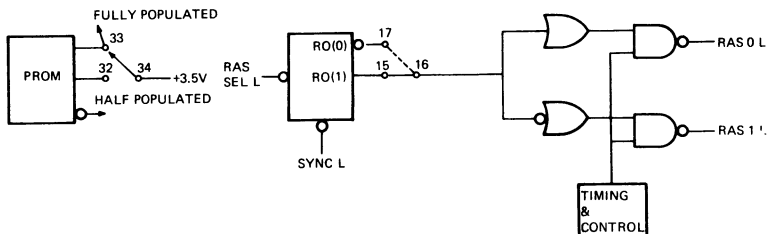

Figure 19-18 Row Selection
The signals that will be generated are as follows. RAS SEL (L) will cause SEL RAS 0 to be active. Row address strobe 0 (RAS0) gates the row address into row 0 memory chips (Figure 19-18).
RAS SEL (H) will cause SEL RAS 1 to be active. Row address strobe 1 (RAS1) gates the row address into row 1 memory chips (Figure 19-18).
For example, if the first 64K words of memory have bad memory chips, jumper pin 16 to pin 17. This enables the logic to generate RAS1. Remember that RAS SEL (L) will be active (Figure 19-18).
If the second 64K words of memory have bad memory chips, jumper pin 15 to pin 16. This enables the logic to generate RAS0. Remember that RAS SEL (L) is active (Figure 19-18).